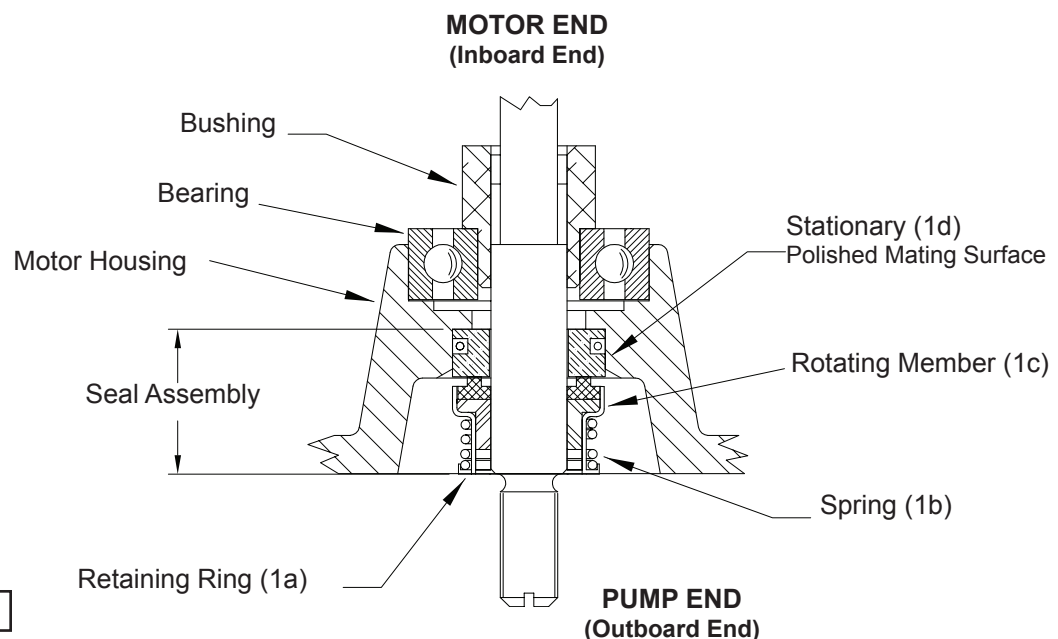
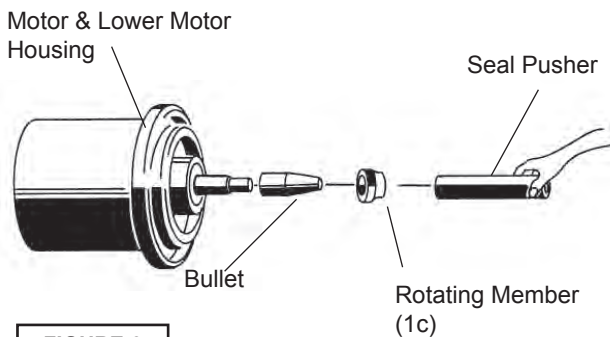

FIGURE 4
FIGURE 6
To expose shaft seal (1) disassemble volute and impeller as outlined in above paragraph. Remove rotating member (1b) from shaft (See Fig. 4). Examine all seal parts and especially contact faces. Inspect seal for signs of wear such as uneven wear pattern on stationary members, chips and scratches on either seal face. **DO NOT** interchange seal components, replace the entire shaft seal (1). If replacing seal, remove stationary (1a) by prying out with flat screw driver.
Make sure the stationary member is in straight. Slide a bullet (see parts list-seal tool kit) over motor shaft. Lightly oil (**DO NOT use grease**) shaft, bullet and inner surface of bellows on rotating member (1b) See Fig. 6. With lapped surface of rotating member (1b) facing inward toward stationary member (1a), slide rotating member (1b) over bullet and onto shaft, using seal pusher, until lapped faces of (1a) and (1b) are together (See Fig. 4).